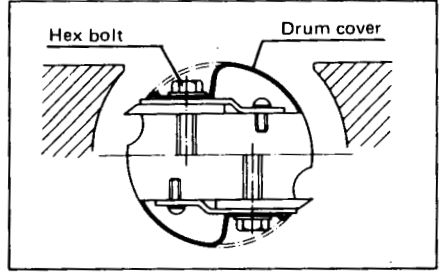

Fig. 6
Remove the chip guard, lift the lever and swing it a full 180 degrees; then use the knob on the belt guard side to align the cutter drum as shown in Fig. 6.
- b. Fix the cutter drum at the position shown in Fig. 6, attach the drum cover and fasten securely the hex bolts. Tightening all bolts fully in order may cause the knife to move. At first, tighten bolts gradually and evenly before applying the final tightening torque.